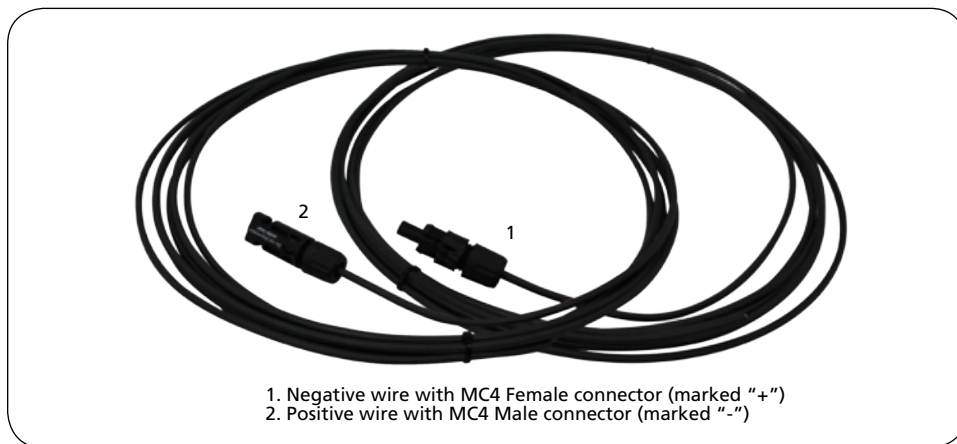

Fig. 7.2. PV extension wires
3. Two pre-assembled, 20 ft, AWG #12, Positive (+) & Negative (-) PV extension wires have been provided (see Fig. 7.2). The wires have MC4 mating connectors on one end for connecting to the solar panel & bare ends on the other side for connecting to the Charge Controller. The wires are marked (+) & and (-) for identification of the polarity.